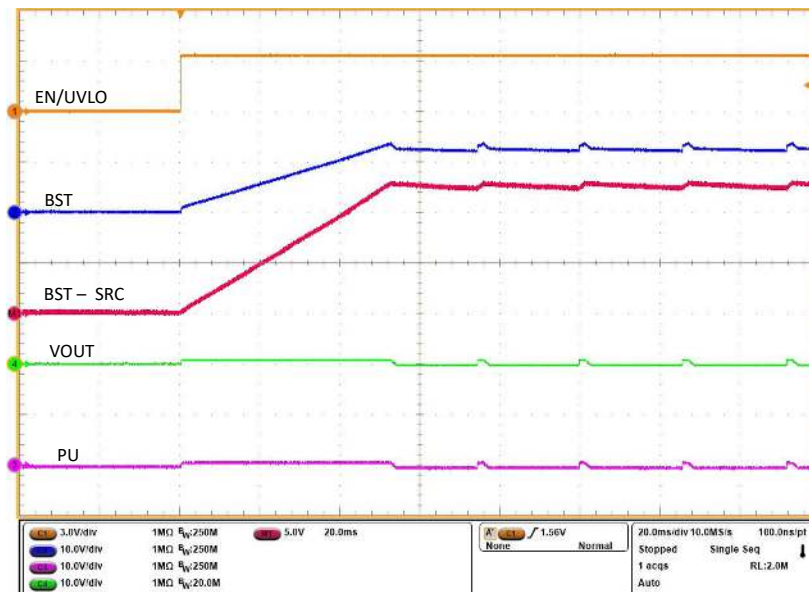

Figure 5-3. Start-Up Profile of Bootstrap Voltage for INP = GND
6. Now, enable the EN/UVLO to HIGH to observe the start-up profile of BST, GATE and SRC when INP = GND as shown in Figure 5-3.